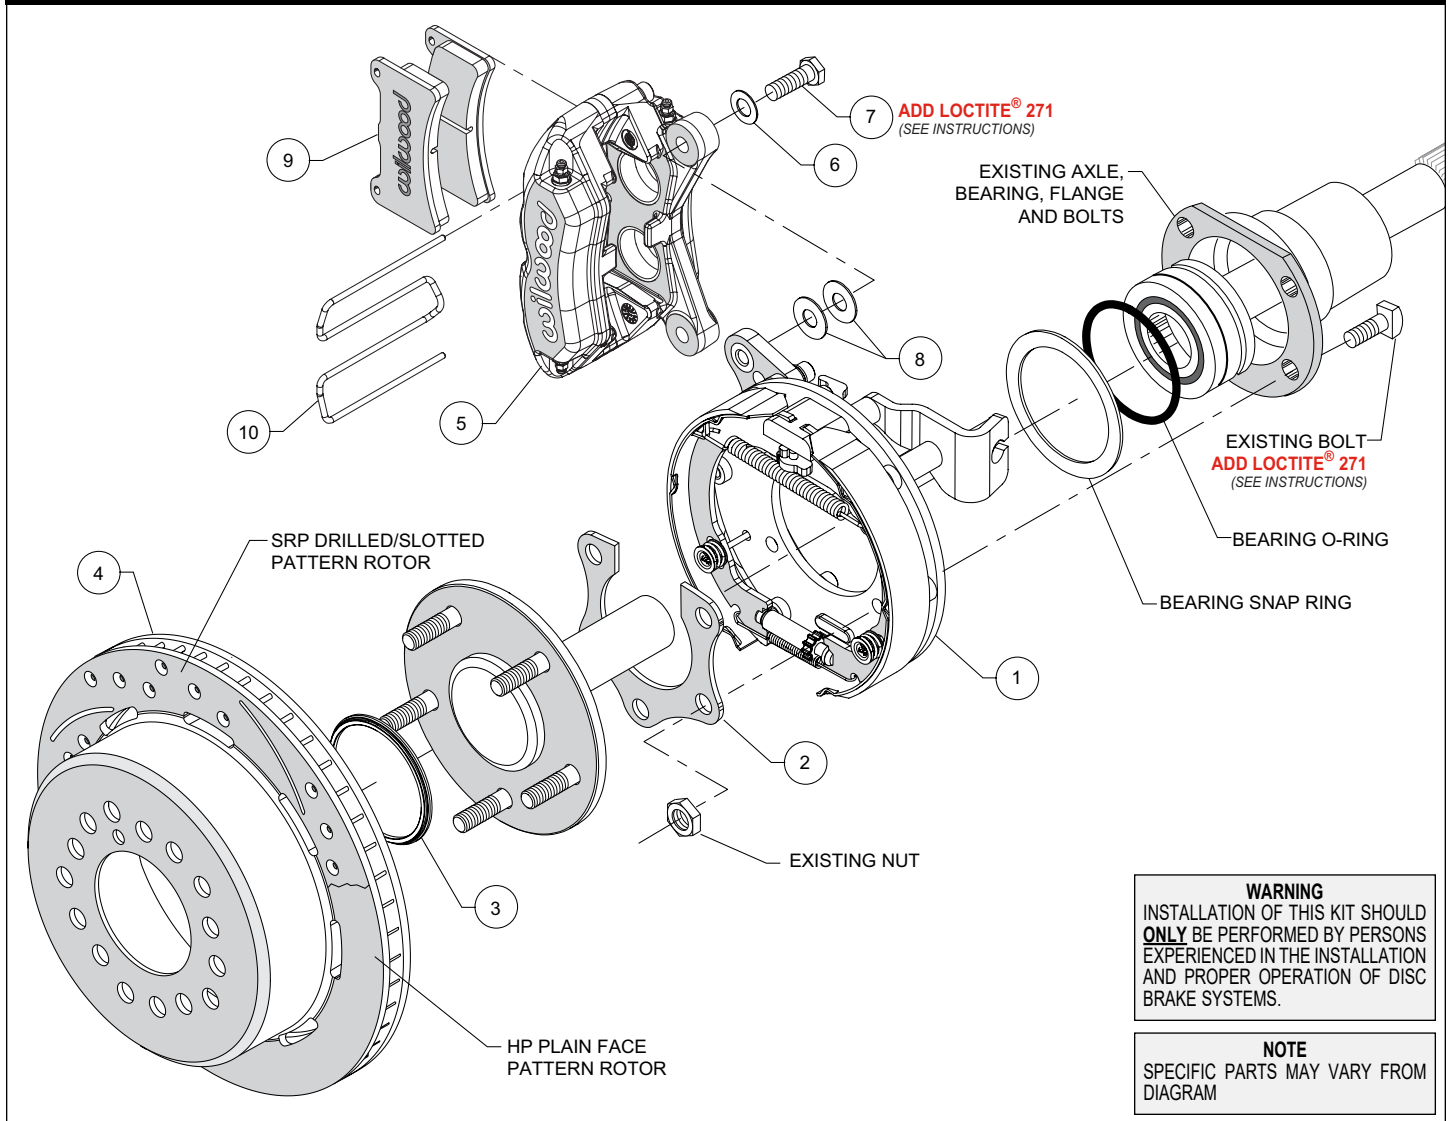

Figure 3. Typical Installation Configuration
NOTE: Numbers in parenthesis refer to the parts list and Figure 3 on the preceding pages.
- Temporarily remove the snap ring and o-ring from the bearing. Use care so as not to damage those components. Orient the bracket assembly (1) as shown in Figure 3 and Photo 1 and slide it onto the axle and past the bearing. Reinstall the snap ring and o-ring onto the bearing, again using care. Insert the axle and bracket into the axle housing. Ensure that the bracket assembly backing plate fits flush against the axle housing flange. **NOTE:** The bearing snap ring should be sandwiched between the axle housing flange and the new bracket assembly.
- Install the bearing retainer (2) with the opening pointing upward and the bearing relief step facing inward (toward the bearing), as shown in Figures 3 and 6, and Photo 2. Secure retainer and bracket assembly to the axle housing flange using the Original Equipment Manufacturer (OEM) bolts and nuts, Figure 3. Apply red *Loctite*® 271 to the OEM bolt threads and torque to OEM specifications.
- Slide the rotor registration adapter (3) onto the axle register on the axle flange with the smaller O.D. facing toward the rotor/hat (4), Photo 3. Align the correct hole pattern in the rotor/hat with the stud pattern on the axle flange and slide into place, Figure 3 and Photo 4. **NOTE:** The rotor/hat must fit flush against the axle flange or excessive rotor run out may result. Install three lug nuts (finger tight) to keep the rotor/hat assembly in place while continuing with the installation. **NOTE:** Some OEM and after market axles come with stud sizes larger than 0.50" diameter. Verify stud size and have a qualified machine shop drill the bolt circle of the hat/rotor to the correct stud size, if necessary.
- **NOTE:** Please reference the caution statement at the beginning of the assembly instructions. Mount the caliper (5) onto the caliper mounting bracket (1) using bolts (7) and washers (6), as shown in Figure 3. Initially place two .035" thick shims (8) on each bolt between the caliper and the bracket, Photo 5. Temporarily tighten